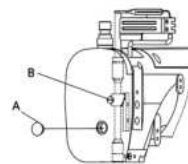

图14 (Fig. 14)
2. 打开上方侧盖橡胶塞(A), 并松开螺钉(B), 上下调整机针高度后在固定螺钉。(图14)
2. The position of needle bar can be adjusted by [1] removing rubber cap (A) and loosening nut (B) [2] moving needle bar up and down to proper position and [3] tightening screw (B), and inset in cap (A). (Fig.14)